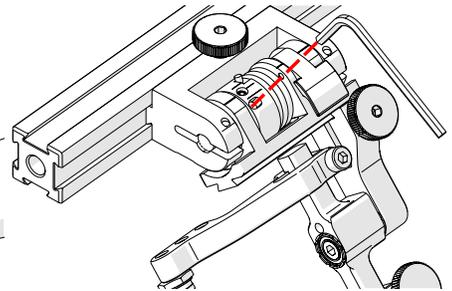

Fig. 111 - Unlatched position
3. Insert the short arm of a 3 mm hex wrench into the 3 mm slot (Fig. 111).